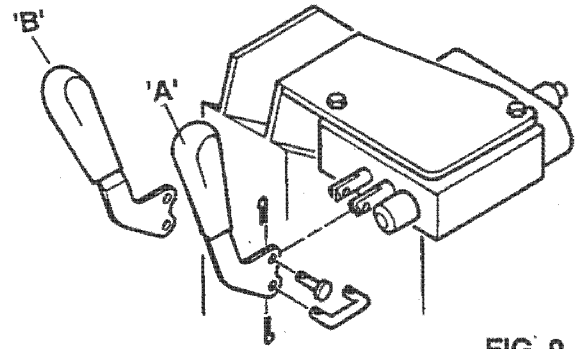

FIG. 9
- Install the valve handles to the hydraulic control valve mounted on the left upright. First attach the offset "B" handle to the spool used for bucket operation. Attach the straight "A" handle to the spool used for loader operation. (See Fig. 9).